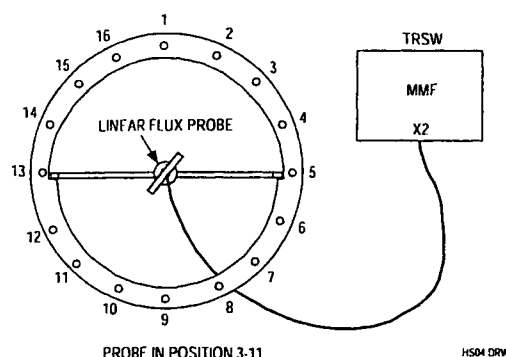

Figure 24 Flux probe position 3 - 11
3. Position the flux probe in position 3 - 11 (see Figure 24) and connect the right pick-up coil in stead of the left pick-up coil to the receive cable MGBX15.